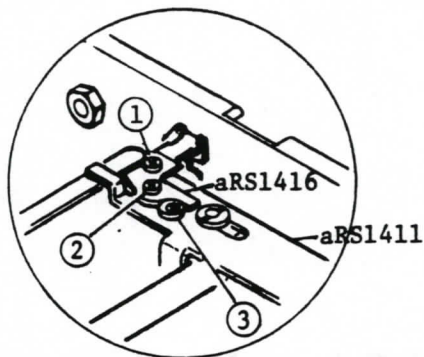
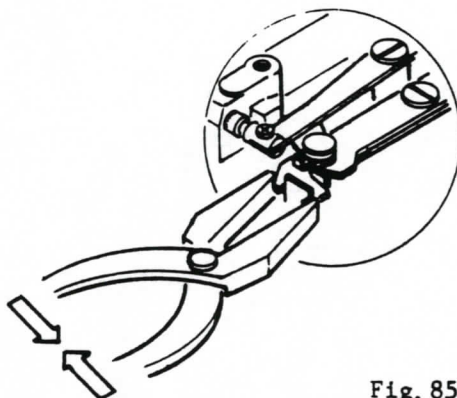

Fig.83
Fig. 85
- (1) Loosen Set screw (1), (2) and (3) for Release plate supporter (aRS1416) fastened with Release plate (aRS1411) as shown in Fig. 83.
- (2) Insert Stop lever clearance gauge (aRS-13) into the lug of the body and Stop lever, then move Release plate supporter (aRS1416) so that the shutter button does not work.
- (3) Tighten Set screw (1) and (2)
- (4) Support Set screw (3) with Eccentric stopper (RS1545) and tighten it.
- (5) Check the clearance (1.7mm).
- (6) Apply Screw lock to Set screw (1), (2) and (3)
- (7) Use a pincers to tighten the edge of Sub lever (aRS1416) so as not leave gaps between the edge of sub lever and Release plate supporting (aRS1516) as shown in Fig. 85.